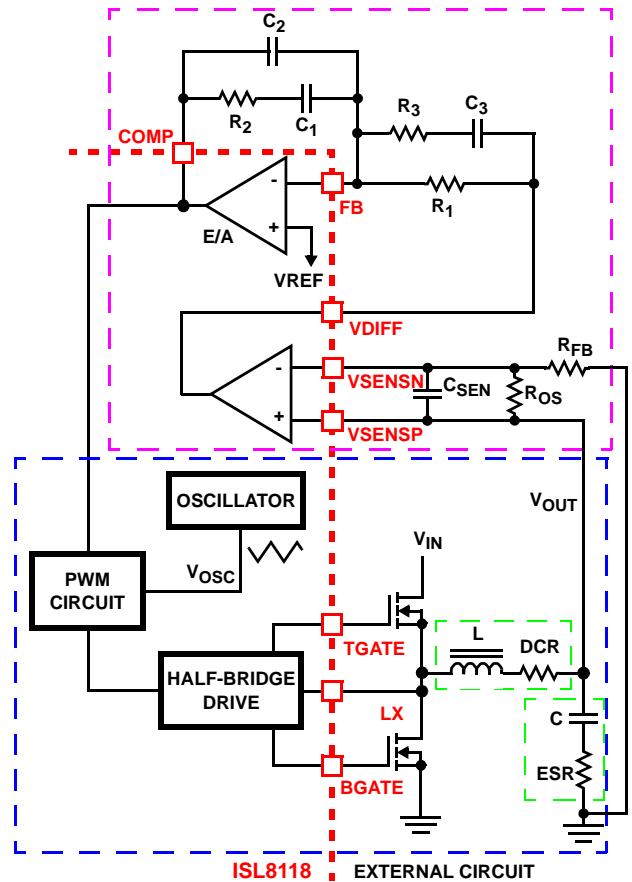

**FIGURE 9. COMPENSATION CONFIGURATION FOR ISL8118 WHEN USING DIFFERENTIAL REMOTE SENSE**
The ISL8118 single-phase converter is a voltage-mode controller. This section highlights the design considerations for a voltage-mode controller requiring external compensation. To address a broad range of applications, a type-3 feedback network is recommended (see Figure 9).
The compensation network consists of the error amplifier (internal to the ISL8118) and the external R1-R3, C1-C3 components. The goal of the compensation network is to provide a closed loop transfer function with high 0dB crossing frequency (F0; typically 0.1 to 0.3 of FSW) and adequate phase margin (better than 45°). Phase margin is the difference between the closed loop phase at F0dB and 180°. The equations that follow relate the compensation network's poles, zeros and gain to the components (R1, R2, R3, C1, C2, and C3) in Figures 9 and 10. Use the following guidelines for locating the poles and zeros of the compensation network:
1. Select a value for R1 (1kΩ to 10kΩ, typically). Calculate value for R2 for desired converter bandwidth (F0). If setting the output voltage to be equal to the reference set voltage as shown in Figure 9, the design procedure can be followed as presented. However, when setting the output voltage via a resistor divider placed at the input of the differential amplifier (as shown in Figure 10), in order to compensate for the attenuation introduced by the resistor divider, the below obtained R2 value needs be multiplied by a factor of (ROS+RFB)/ROS. The remainder of the calculations remain unchanged, as long as the compensated R2 value is used.